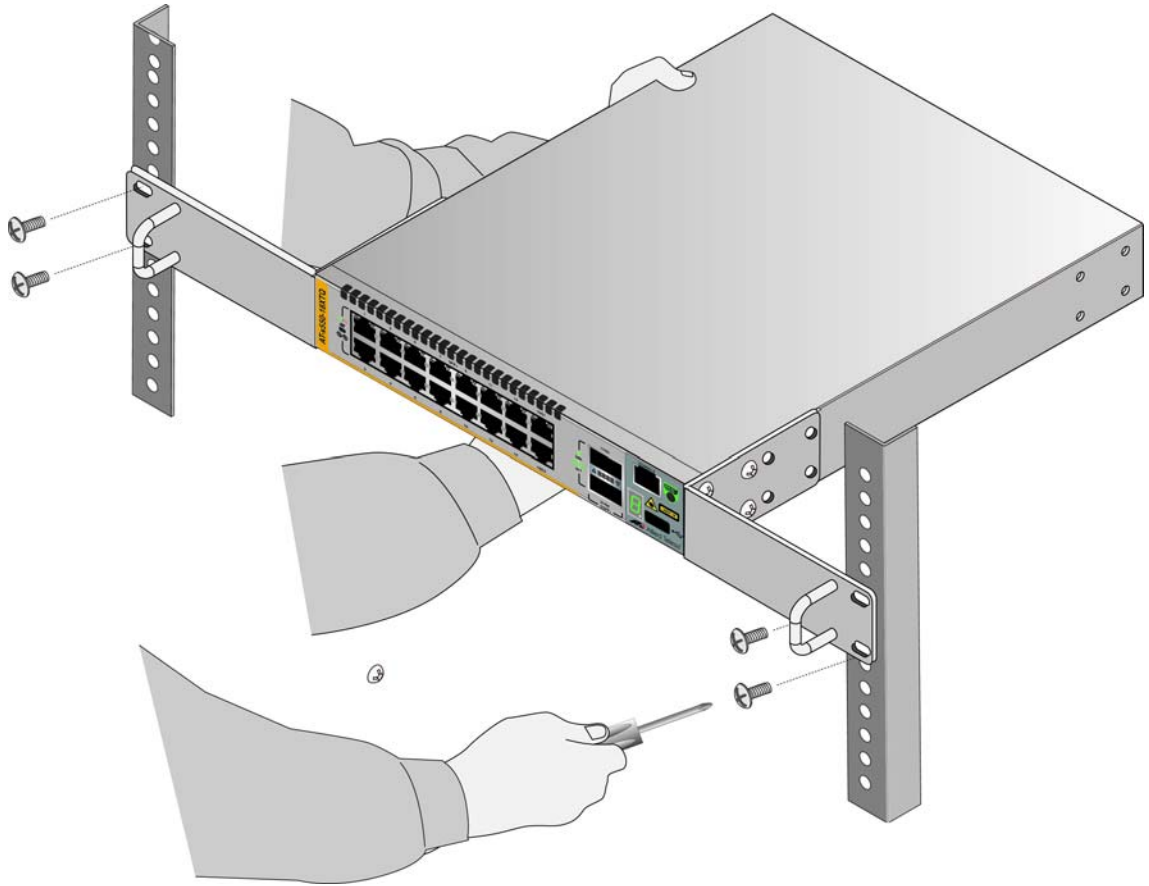

Figure 23. Installing the Switch in an Equipment Rack
4. Have another person hold the switch in the equipment rack at the desired location while you secure it using four standard equipment rack screws (not provided). Refer to Figure 23.